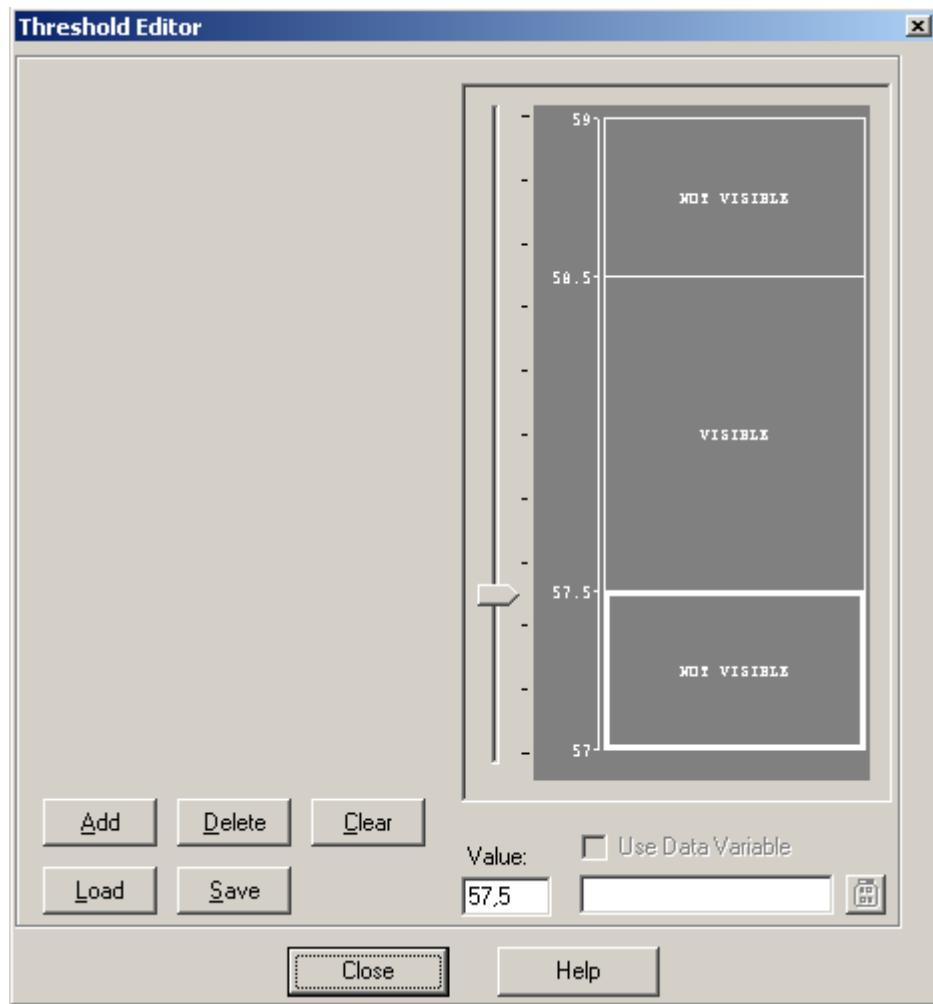

Figure 31: Editing threshold for earthed state
4. Open object properties and give it a name Earthed dash line, modify line style (dash) and width (3).
7. Edit threshold for this item as shown in Figure 31.